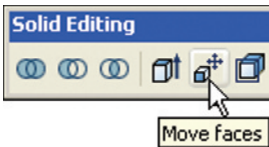

Fig. 18.8 The **Move faces** tool icon
2. Click on the **Move faces** tool in the **Solid Editing** toolbar (Fig. 18.8). The command line shows: